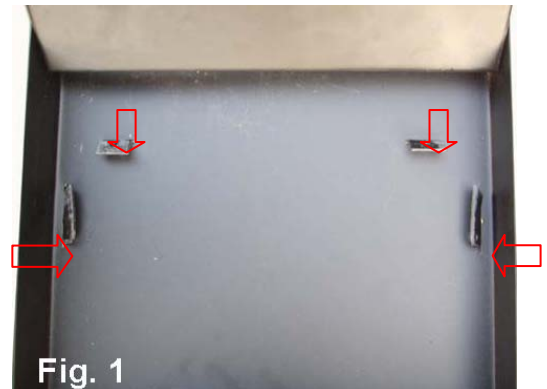

Fig. 1
9. Insert tank plate (#3) into the holes of the upper tool tray (#1), then tip over the whole cart. Use pliers to bend the 4 feet (See fig. 1) onto the upper tool tray to attach the tank plate (#3).